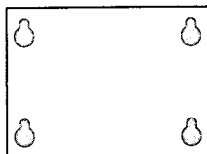

Figure 1
Check the package to ensure that, in addition to this manual, the package contains two keys, a Patriot™, four mounting screws, and a wall-mounting template (Figure 1).
1. At a height convenient for all members of the work force and within 6 ft. (1.9 meters) of a power outlet, use the mounting template (Figure 1) to mark the points where the mounting screws for the Patriot™ are to be installed.